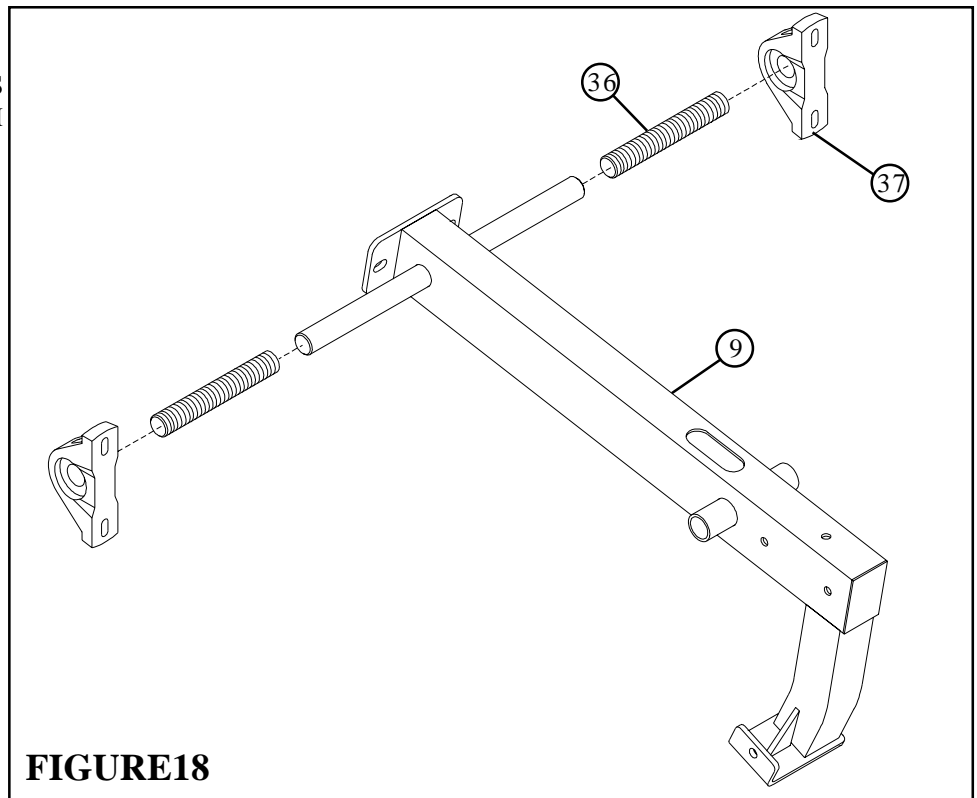

FIGURE 18
- Slide two 5" ACCORIDIAN SLEEVES (36) over the shafts on the PIVOT ARM (9) as shown in FIGURE 18.
- Slide two PILLOW BLOCKS (37) over the shafts on the PIVOT ARM (9) as shown in FIGURE 18.